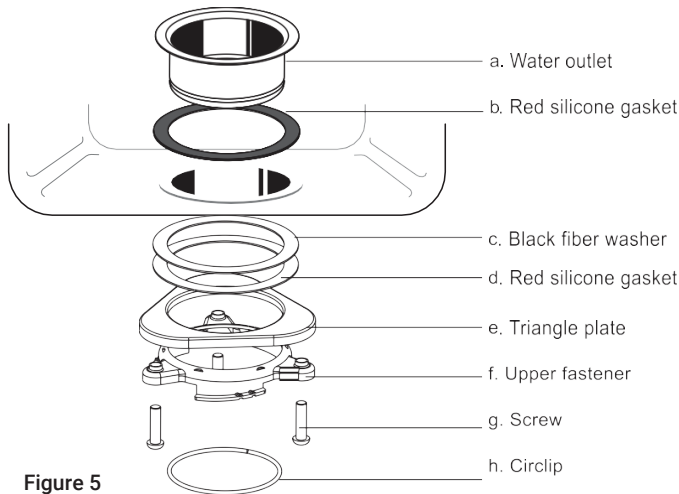

Figure 5
D. Connect the outlet and flange assembly to the sink (See Figure 5).